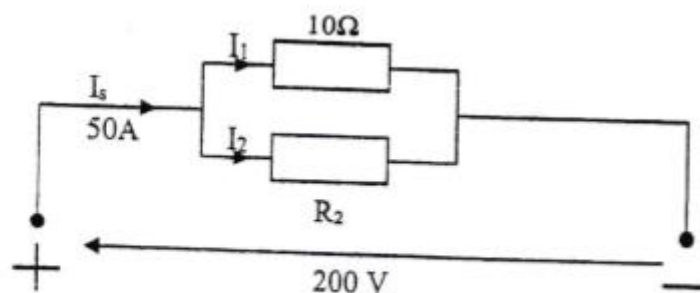

Figure Q10
2. For the circuit shown in Fig Q10, calculate:
- The total circuit resistance; (2)
- The total circuit current, I_s (2)
- The potential difference across parallel branches (2)
- Current in the 10Ω and 15Ω resistors (2)